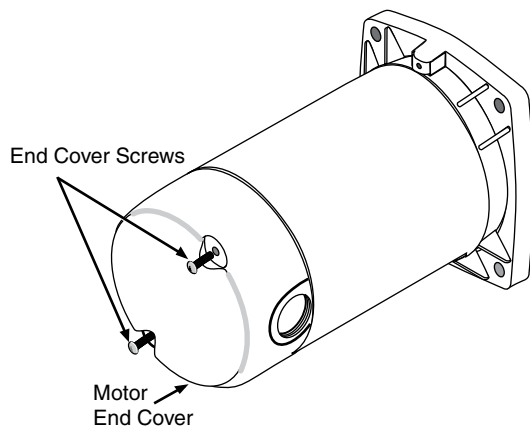

Figure 6: Removing Motor End Cover
Step 1. Connect the ground wire first as shown in Figure 6. The ground wire must be a solid copper wire at least as large as the power supply wires.
Step 4. Connect the power supply wires to the pressure switch as shown in Figure 6.